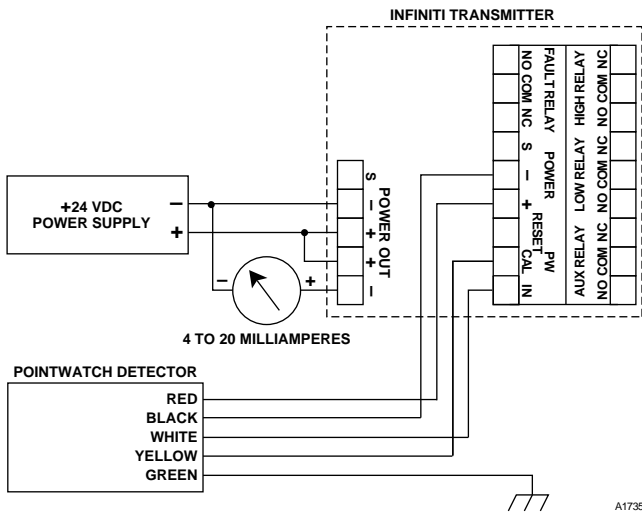
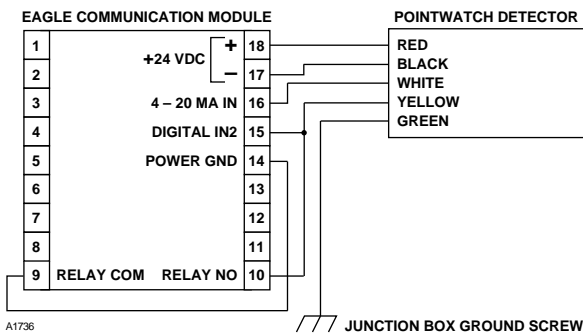

Figure 17—Typical PointWatch Wiring with Det-Tronics Infiniti Transmitter
Figure 18—Typical PointWatch Wiring with Eagle Communication Module
3. Figures 14 through 18 show typical wiring for various system configurations using the PointWatch detector. Refer to the appropriate figure as a guide to system connection. Figure 14 shows typical wiring for standalone operation. Figure 15 shows typical wiring for PointWatch with Det-Tronics supplied junction box. Figure 16 shows the junction box terminals and calibration switch. Figure 17 shows typical wiring for PointWatch/Infiniti transmitter operation. Figure 18 shows typical wiring for PointWatch/Eagle communication module configuration. The PointWatch wiring color code is: